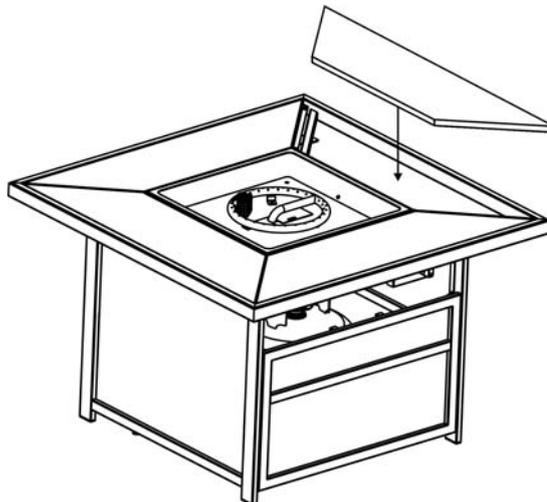

Figure 8
9. Note the clear table bumpers spaced evenly throughout the inside of the table rim. Carefully place the tiles inside table rim, resting on the table bumpers as shown in Figure 8.